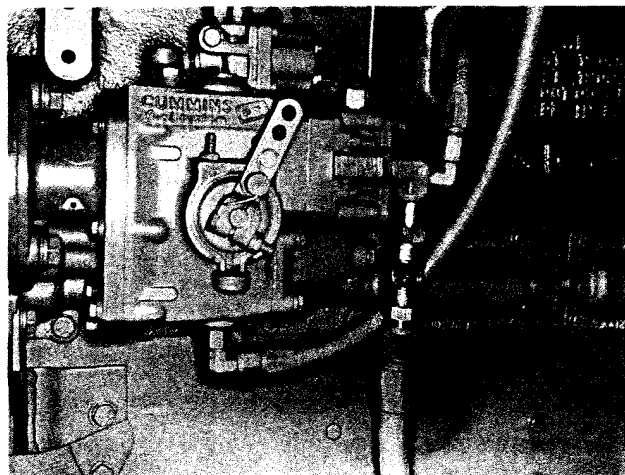

Fig. 1-10, (N11964). Checking for air in fuel lines
3. Check for air leaks in fuel system after engine has started by placing ST-998 Sight Gauge in the line between fuel filter(s) and pump. Bubbles over 1/2 inch long or of a "milky" appearance indicate an air leak; find and correct. Fig. 1-10.